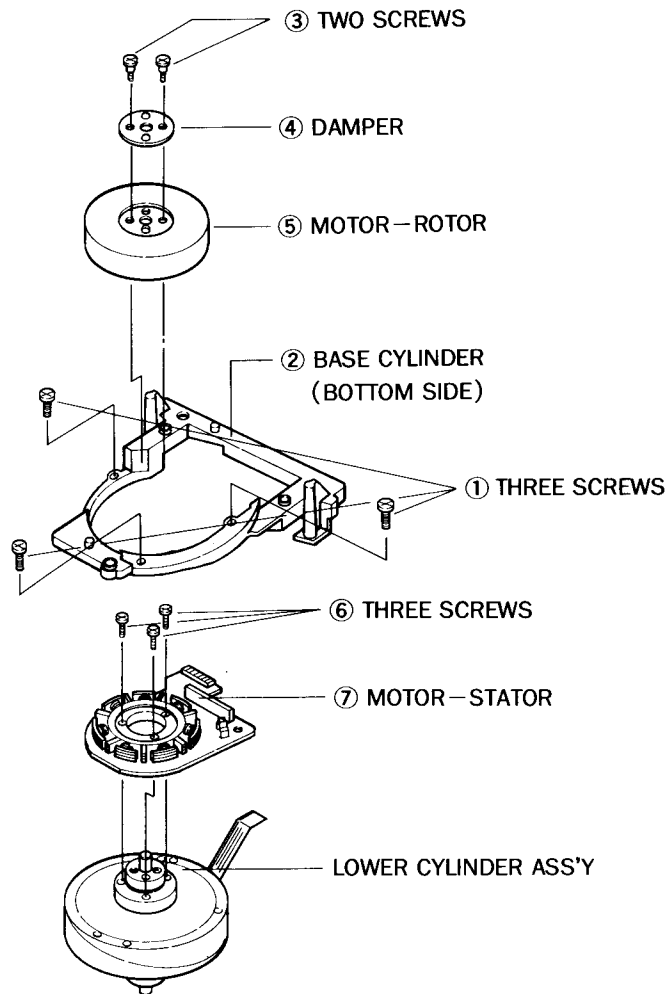

Fig. 16 Cylinder Motor Removal
1. Tighten three (3) screws with the motor-stator. (Refer to Fig. 16)
2. Reinstall the motor-rotor, damper and secure with two (2) screws. (Refer to Fig. 16)